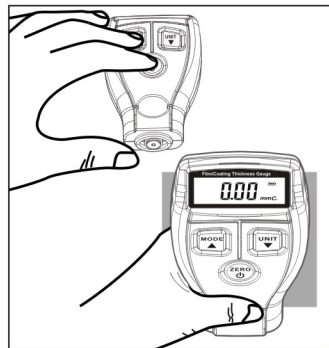

Figure 2
- b. Remove the probe from the surface. The LCD displays a value about 50mm. Carry out the second calibration by, put the 0.05mm calibration block on the iron substrate. Then lightly press the probe onto the ferrous substrate where the calibration film locates. Beeping twice indicates that calibration of the second point finishes. ( Figure 2)